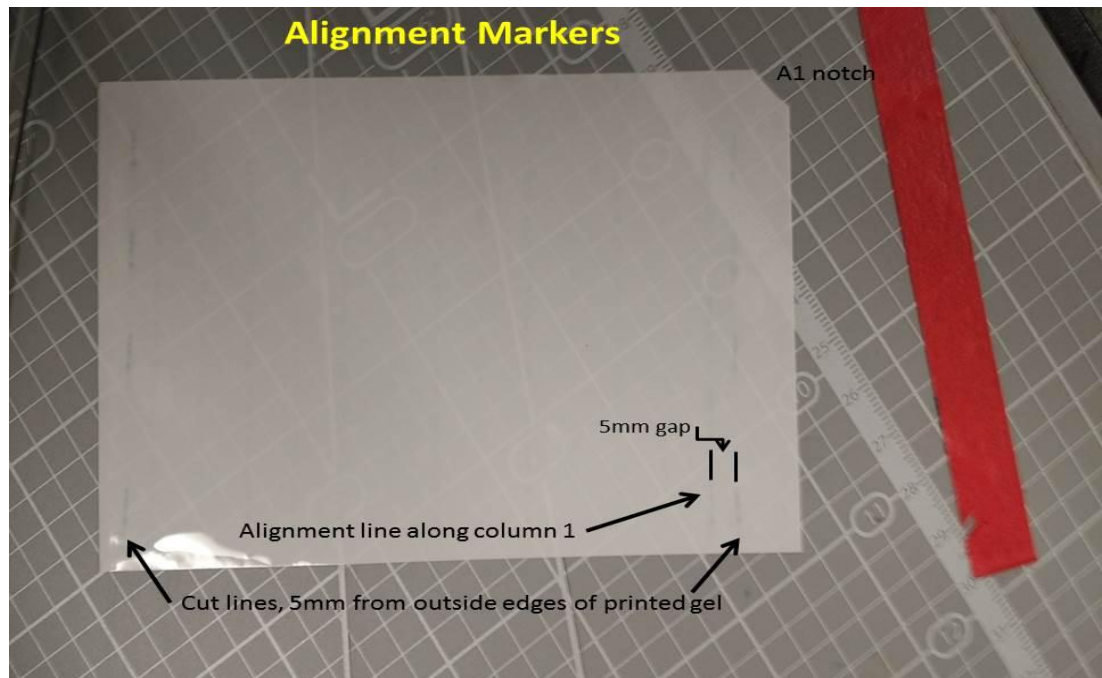

Figure 1.b. Trimming perpendicular to the Row A – D axis
- 3) Prepare Nitrocellulose (NC) that contains the samples for primary antibody incubation.
- i. Place blotter gel holder cassette red side down, remove pad and gel exposing NC with samples facing up. Mark A1 corner with notch (see Figure 1). A1 corner is defined by the specific workplate used to print samples. (See Step 7, Fig.1 in SOP A-11.0, “Printing of Samples for Microwestern Array).
- 5) After removal from blocking buffer, trim NC to allow for proper alignment within the hybridization plate. (Example below is based on a 24 well plate setup.) The following figures show how the NC is trimmed along the x axis using the “cut lines” (leaving a length of 118 mm, Fig. 1a.) and along the y axis to a point 77 mm from the bottom of the NC (Fig. 1.b.) to fit into the Hybridization Plate (Fig. 2.a.) (The Gel Company, #MWA100-24-1) so that the “alignment line,” Fig. 1a, lies on top of the A6-D6 gasket line (Fig. 2.b.).
- 6) Place NC sample side up in plate, carefully aligning the printed areas with the locations of the hybridization wells. Alignment line (see Fig. 1.a. above) should be positioned along gasket line of the hybridization plate, 5mm from plate edge.